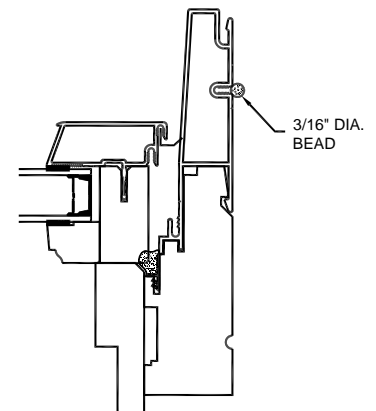

Fig 3
Step 3. Apply Perimeter Sealant (Fig 3)